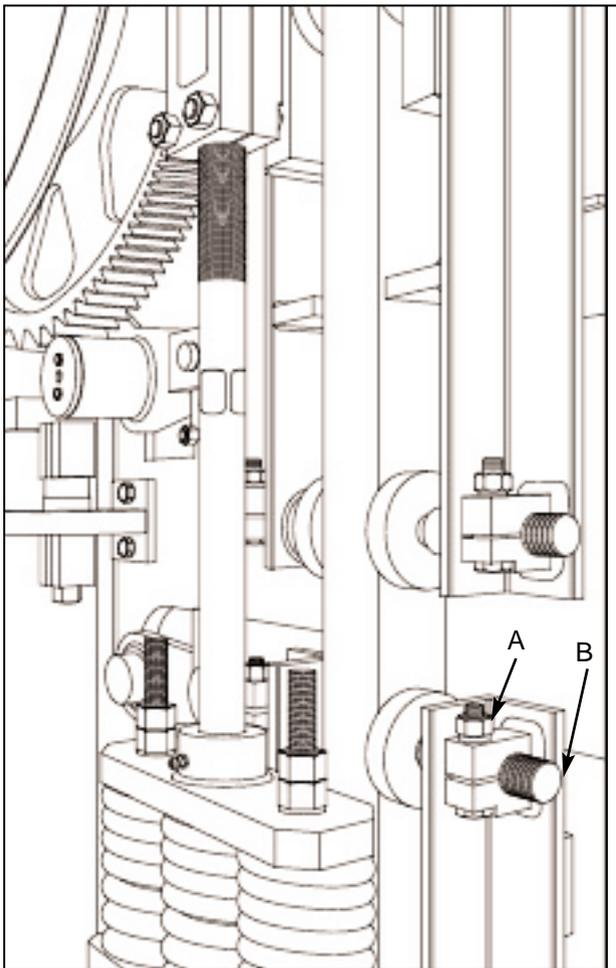

Figure 5.19 UPPER GUIDE LINER ADJUSTMENT SCREW.
a. To make the following adjustments (see figure 5.19):
1. Loosen the nut (A).
2. Adjust the guide liner (B) as desired.
3. Tighten the nut (A).